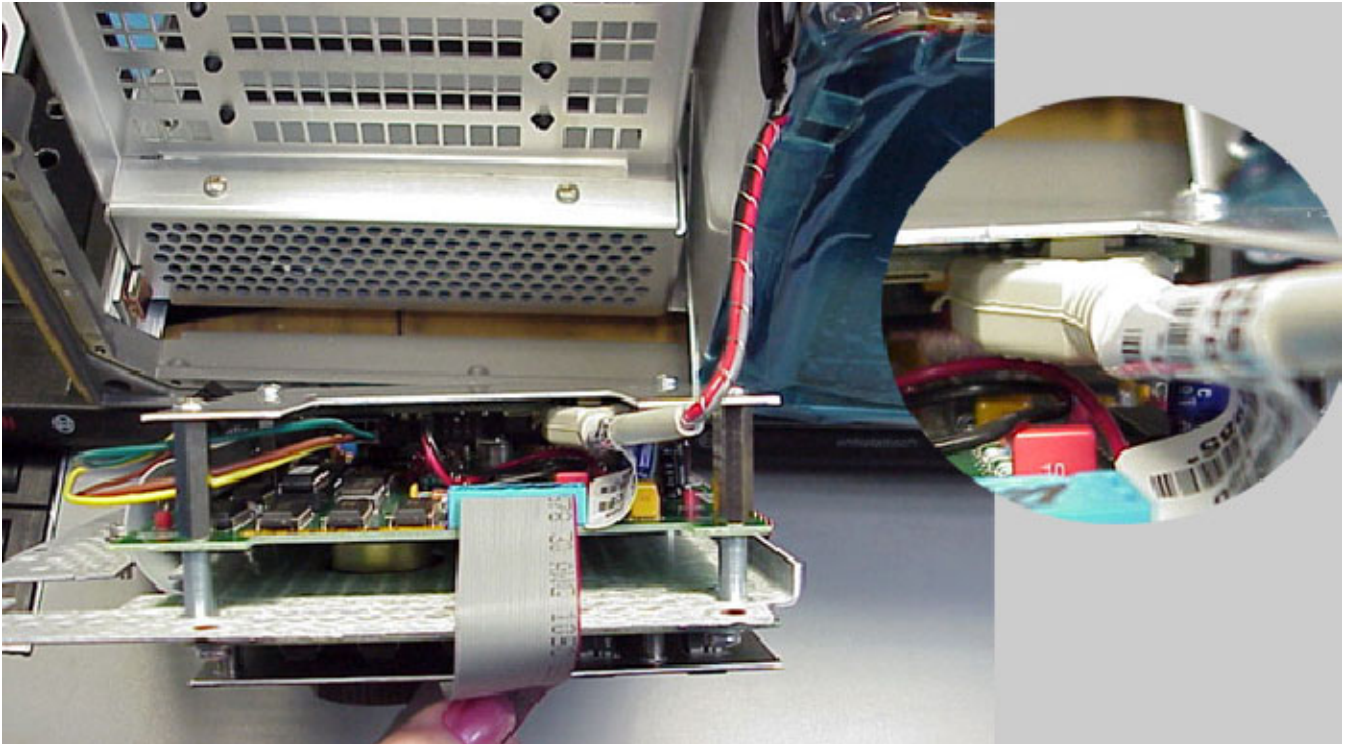

Figure 14: Installing the Keypad board assembly (bottom)
- a. Attach the touch panel cable to P2 on the Touch panel controller board. The key on the plug should be towards the shield. Make sure to route the cable outside of the standoffs. See Figure 14 on page 17.